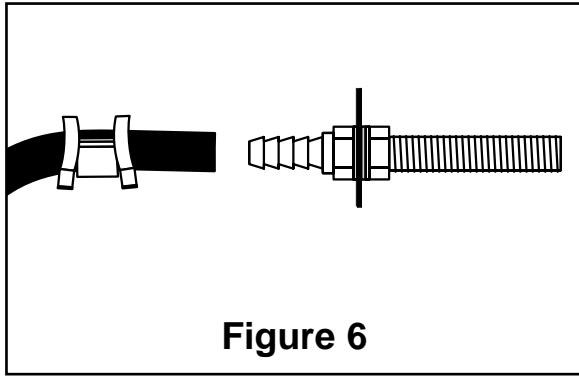

Figure 6
J. Connect the air line to the inflation valve (Figure 6).